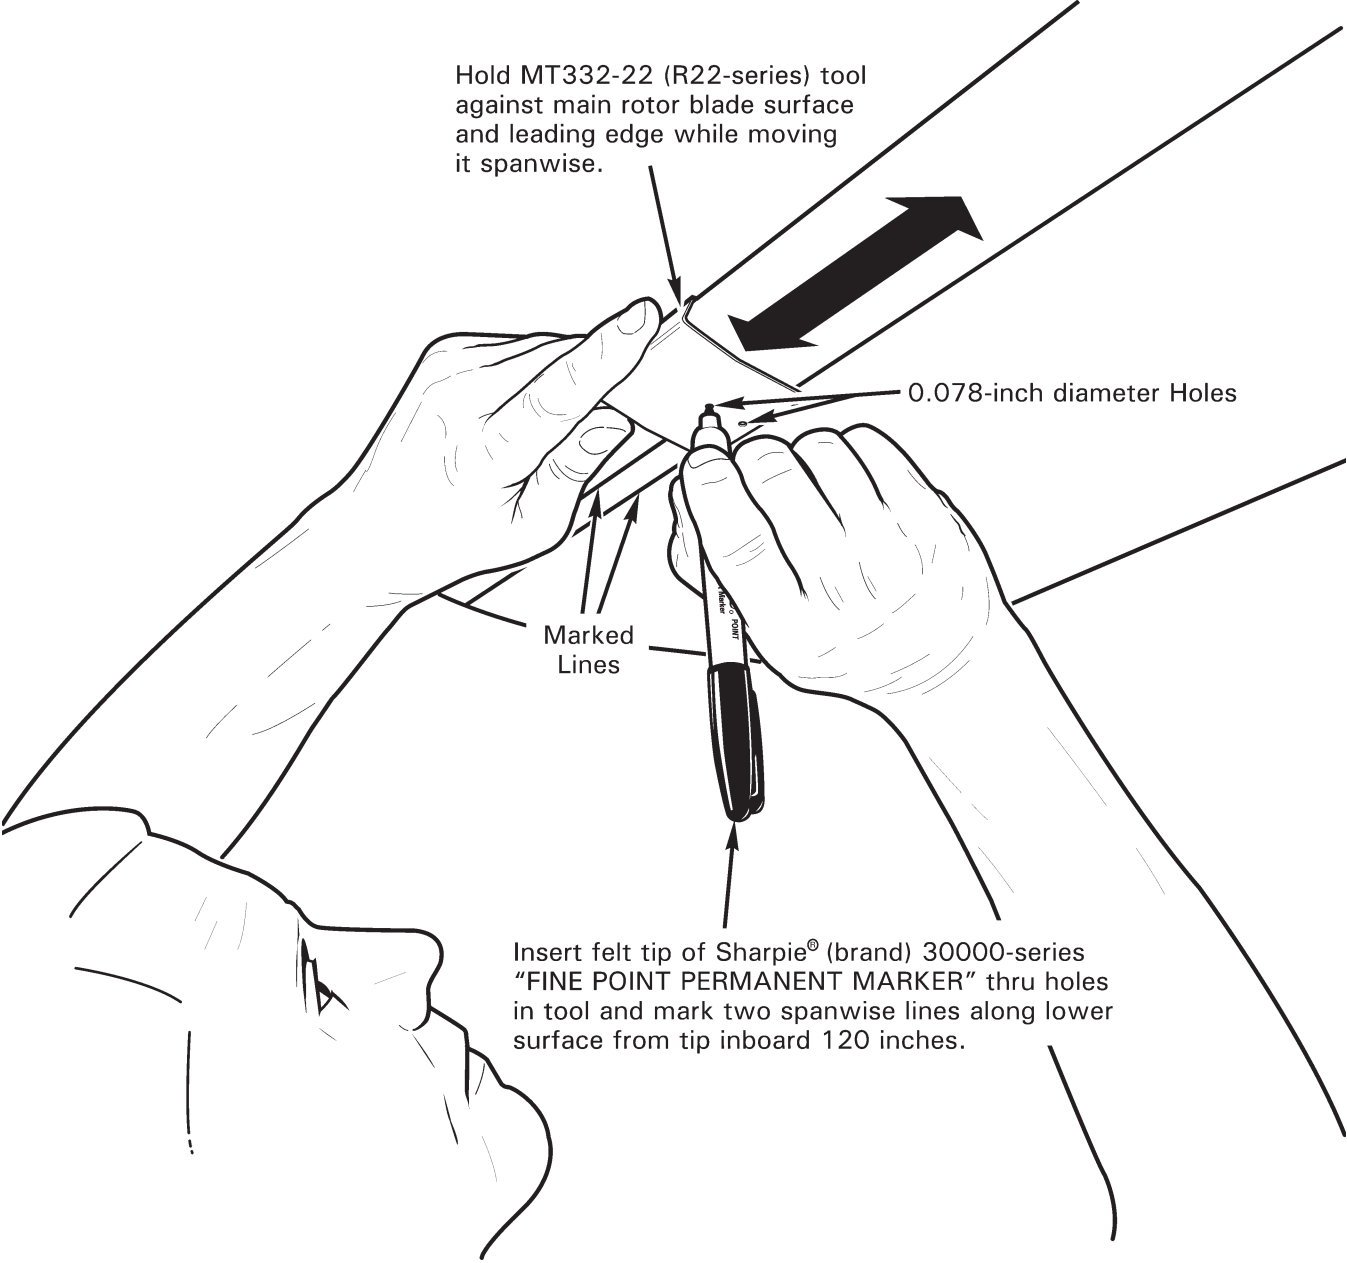

FIGURE 2 MARKING LOWER SKIN-TO-SPAR BOND JOINT AREA
4. Refer to Figure 2. Mark outboard 120 inches of blade lower surface as shown to identify skin-to-spar bond joint area.